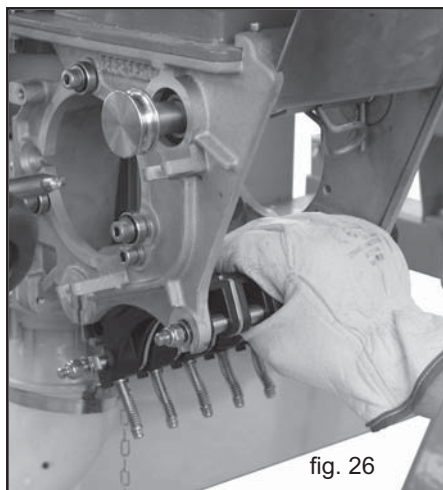

fig. 26
- 3) Remove the back part (Fig. 26) of the feeler pin unit, first, followed by the front part.